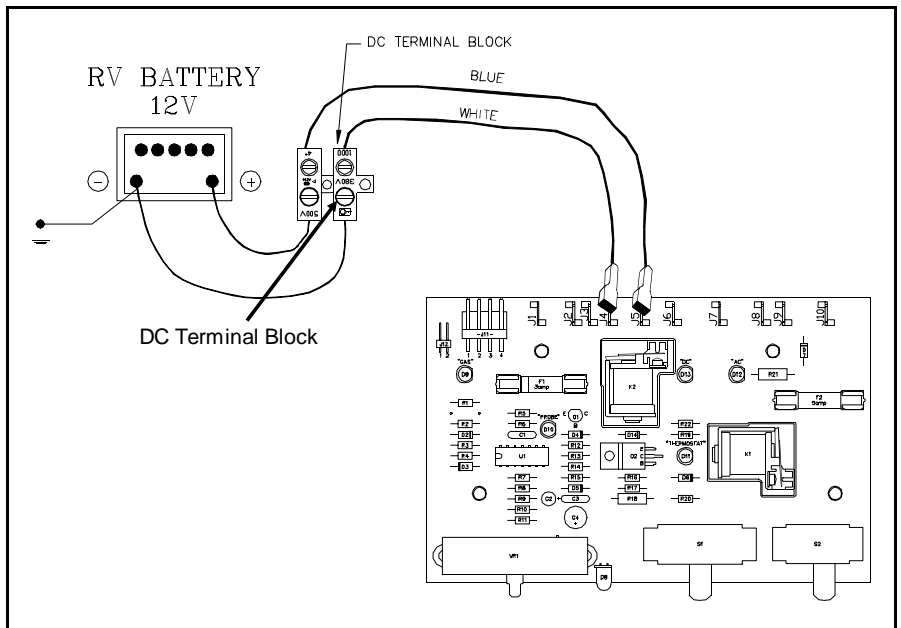

Figure 4.3 12 Volt Connection to PC Board
3. From the terminal block the DC supply voltage will connect to the PC board on terminals J-4 ground and J-5 (+) 12 Volts DC as shown in Figure 4.3.